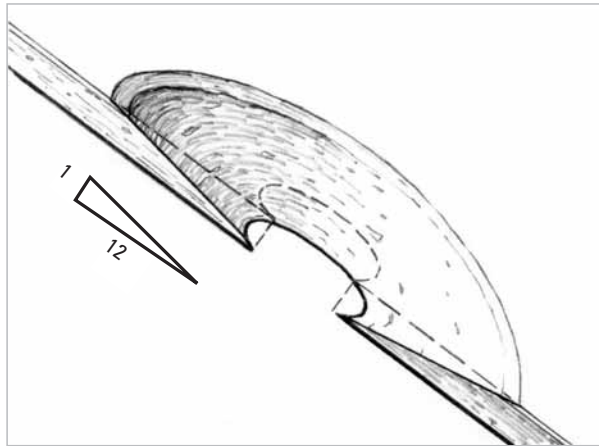

Figure 4-1 Grind a minimum 12-to-1 bevel around the edge of the excavated hole, whether the damage extends partially or completely through the skin.
2. Grind a bevel around the edge of the repair area to create a bonding area for the patch that will keep the patch flush with the skin's surface. A minimum 12-to-1 bevel is required to assure the transfer of loads across the repair area (*Figure 4-1*). For example, if you are left with a hole through a 1/4" (6mm)-thick laminate, the outer edge of the bevel will extend 3" (75mm) from the inside edge of the hole. If the skin is very thin, a longer bevel angle is required.